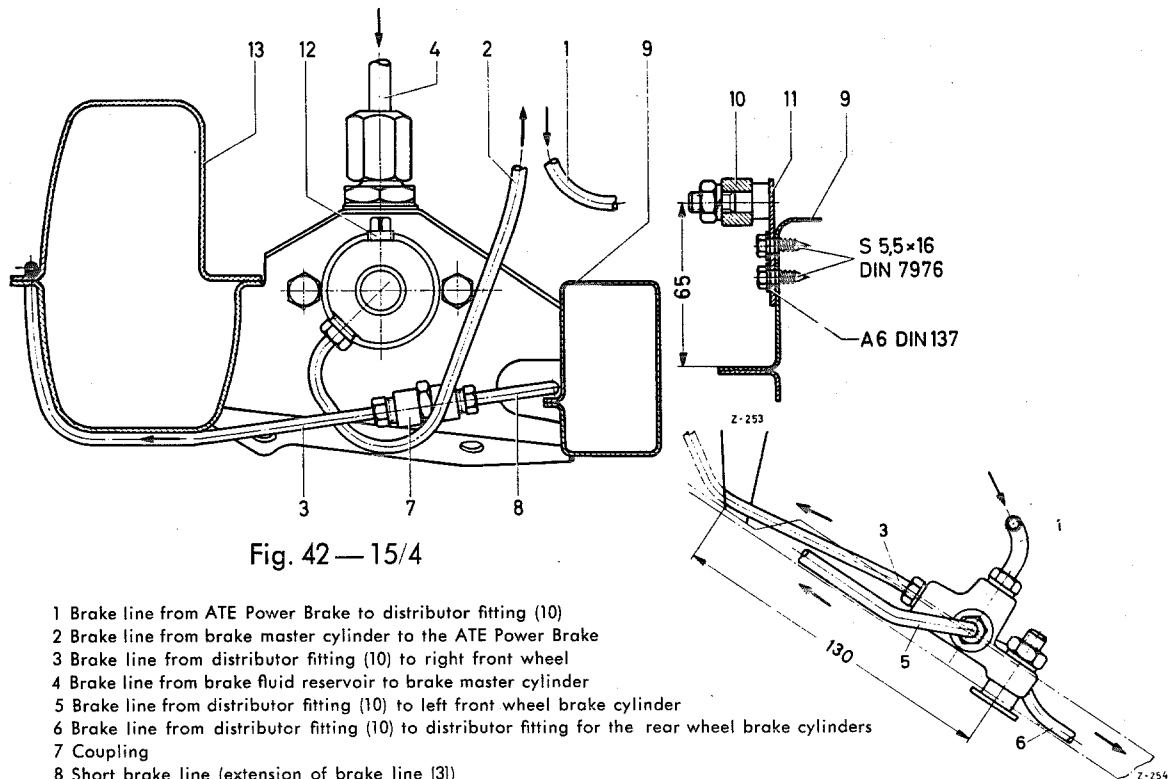

Fig. 42 — 15/4
Note: Recent models of the ATE Power Brake are provided with a mounting thread for the stop light switch (21) (see Fig. 42 — 14/1).
On these power brakes, the stop light switch should no longer be screwed into the brake master cylinder but into the mounting thread of the power brake. In that case, the thread in the brake master cylinder should be closed by a plug (12), Part No. 000 428 01 32 (see Fig. 42 — 15/4).
15. Connect the brake line (2) from the brake master cylinder to the power brake, and the brake line (4) from the fluid reservoir to the brake master cylinder (see Figs. 42 — 15/4 and 42 — 14/1).